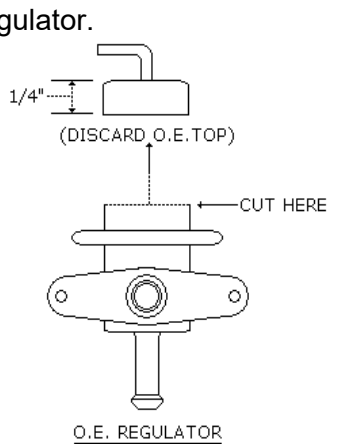

FIG. 1
3. Measure ¼ Inches down from top of O.E. regulator. Using a hacksaw or pneumatic cutter, cut the top off of the O.E. regulator and discard. FIG.1